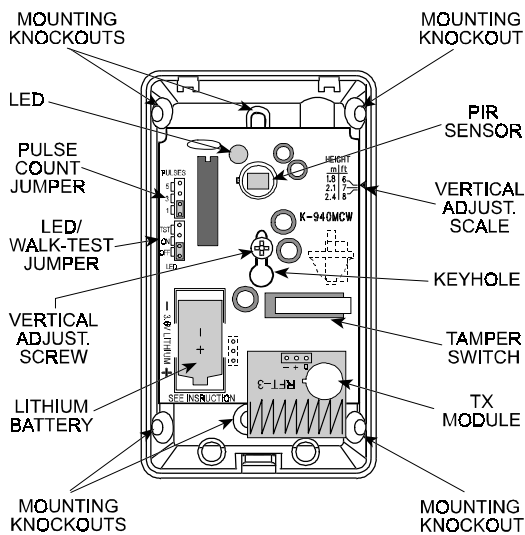

Figure 2. Components Layout
**A.** Insert the battery into the battery clip - observe polarity (see Figure 2).
**Note:** For wall surface mounting, use the two elongated knockouts at the middle of the base. For corner mounting, use two diagonally opposite knockouts at the angled sides of the base (see Figure 2).